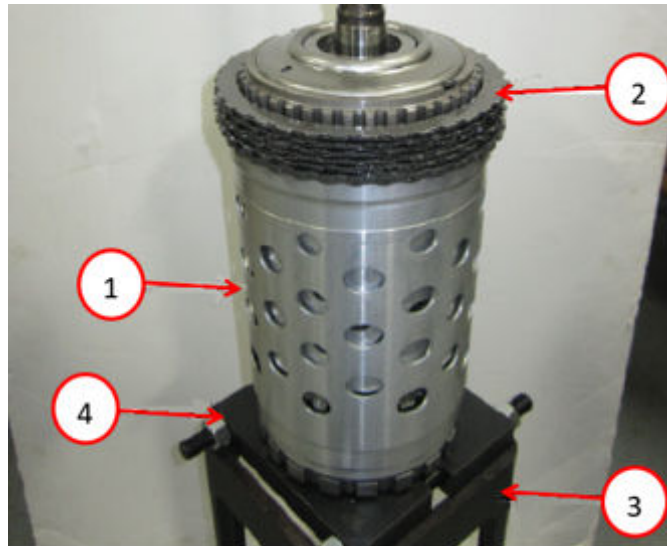

Fig. 33
52. Install the Clutch B discs and plates Fig. 33.